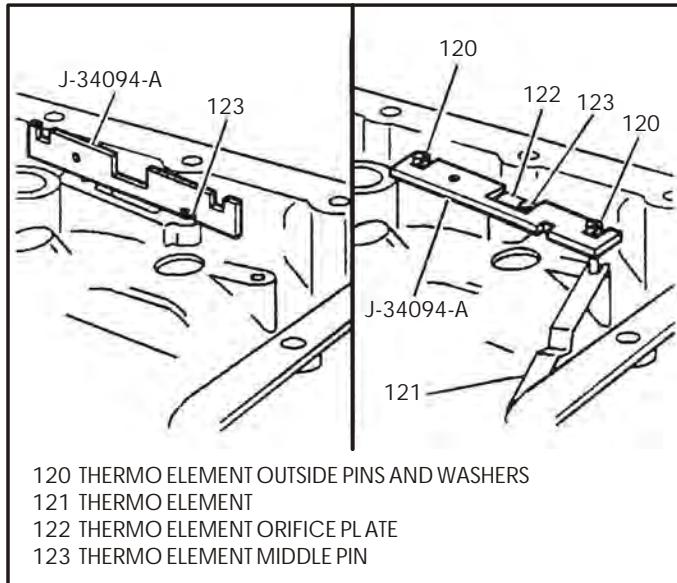

Figure 196
1. Use tool J-34094-A in order to set the height of middle thermo element pin (See Figure 196).
3. Use tool J-34094-A in order to set the height of of the outside pin and washer (120) that is the farthest from the accumulators, as shown in Figure 196.
4. Use tool J-34094-A in order to set the height of the second outside pin and washer (120) shown in Figure 196.